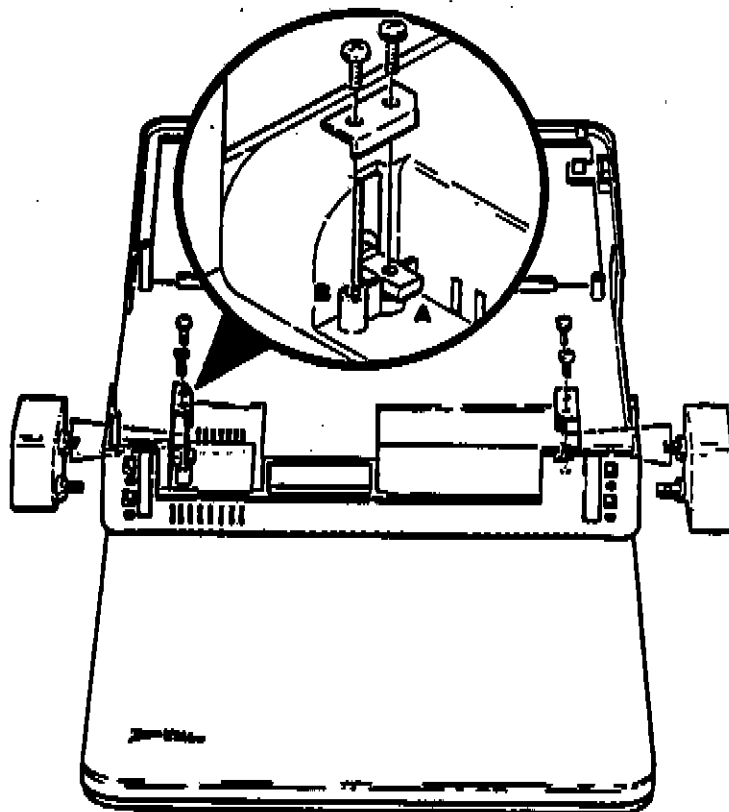

Figure 3-31. Installing the Pivot Assemblies
- The bottom shaft is in the opening on the base unit top, as shown in Figure 3-31.